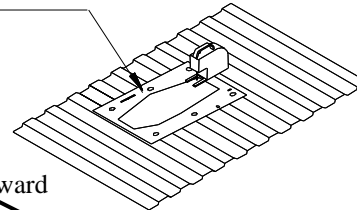

Figure 13
9. Align the holes on the template (provided with the gooseneck hitch) with the holes previously drilled through the bed. Be sure that the template is properly oriented toward the front of the vehicle (see Figure 13). Center punch the holes that will be used to cut the opening in the bed. If the vehicle is equipped with a bed liner, a section of the bed liner must be cut away so that the gooseneck platform can contact the bed corrugations.